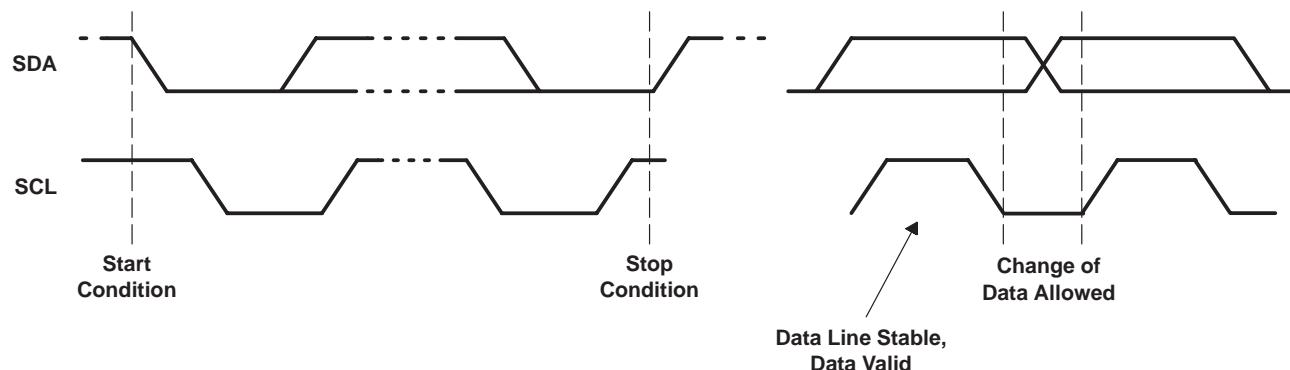

Figure 4. Serial EEPROM Start/Stop Conditions and Bit Transfers
The serial EEPROM interface signals require pullup resistors, and the protocol is defined for the bidirectional transfers. Both SCL and SDA are 3-stated and pulled high when the bus is not active. When the SDA line transitions low, this signals a start condition (S). A low-to-high transition of SDA while SCL is high is defined as the stop condition (P). One bit is transferred during each clock pulse. The data on the SDA line must remain stable during the high period of the clock pulse, as changes in the data line at this time are interpreted as a control signal. Data is valid and stable during the clock high period. This protocol is shown in Figure 4.